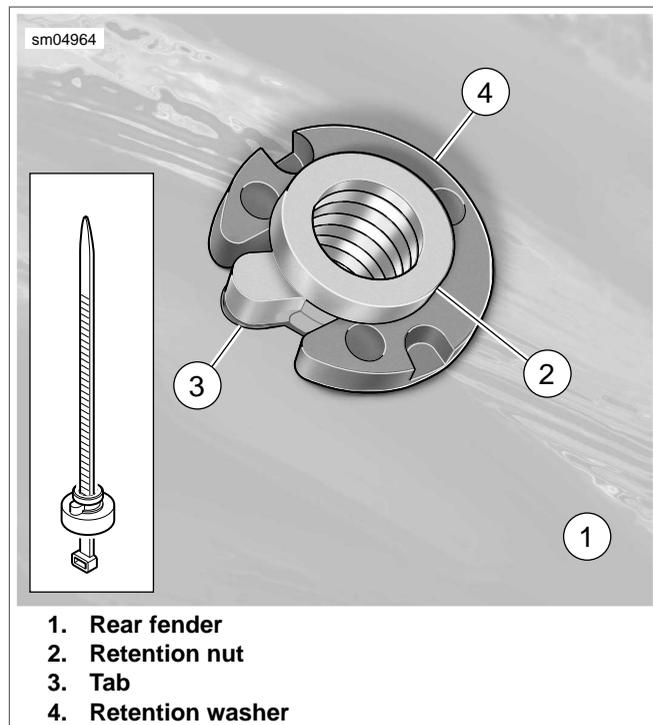

Figure 2-105. Install Seat Retention Nut
1. Slide retention nut over tapered end of cable strap, so that larger OD of nut rests on cable strap eyelet. From bottom of rear fender, feed cable strap up through fender hole. See inset of Figure 2-105.